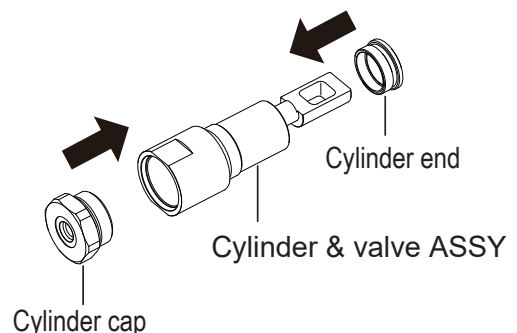

Fig.21
- c. Attach the cylinder cap and the cylinder end to cylinder. (Fig. 21)